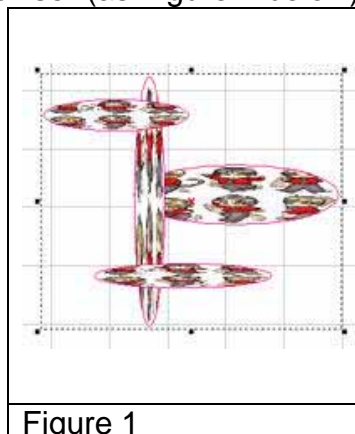

Figure 1
**Step 2:** Click “Draw – Circle” from Menu Bar, or click the  button from toolbar. Draw some circles in Work Area and fill colors in all objects (as Figure 1 below). You can see that all objects belong to circle in Object Browser (as Figure 2 below).